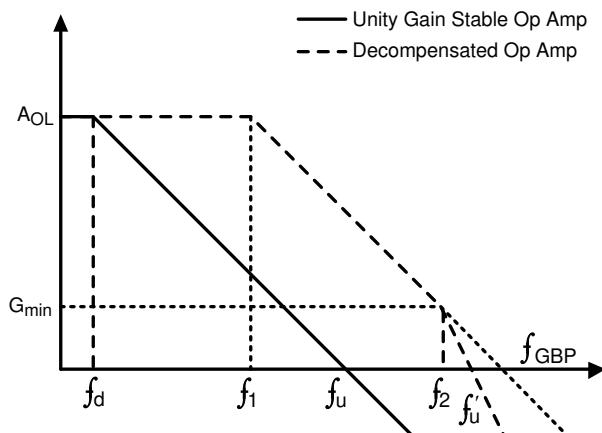

Figure 6-3. Gain vs Frequency Characteristics for a Unity-Gain Stable Op Amp and a Decompensated Op Amp
As shown in Figure 6-3, the dominant pole of a unity-gain stable amplifier, f_d , is moved to the frequency f_1 in the case of a decompensated op amp. The solid A_{OL} plot is the open-loop gain plot of a traditional unity-gain stable op amp. The change in internal compensation in a decompensated amp such as the TLV904xD increases the bandwidth for the same amount of power. Besides the advantages in the above mentioned parameters, an increased slew rate and a better distortion value is achieved because of the higher available loop-gain, compared to its unity-gain counterpart. The most important factor to consider is ensuring that the op amp is in a noise gain (NG) greater than G_{min} . A value of NG lower than G_{min} results in instability, as shown in Figure 6-3, because the $1/\beta$ curve intersects the A_{OL} curve at 40dB/decade. This method of analyzing stability is called the *rate of closure method*. See TI precision labs for a better understanding on device stability and for different techniques of ensuring stability.